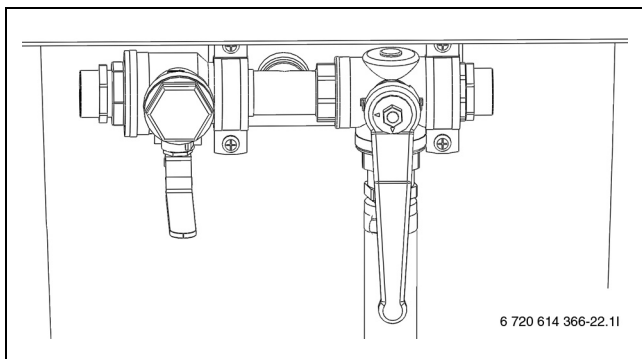

Fig. 24 Filling station in mixing position
- ▶ Turn the valves on the filling station so that they are in mixing position (→ Figure 24).